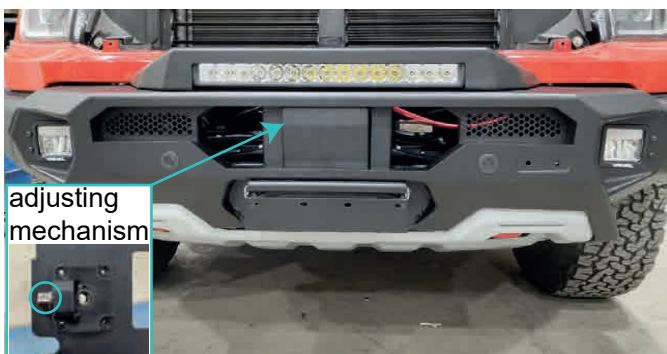

Fig.66
62. Align the radar position perpendicular to the road using the adjustment mechanism as it was on the factory bumper. Install the factory radar cap (fig.66).